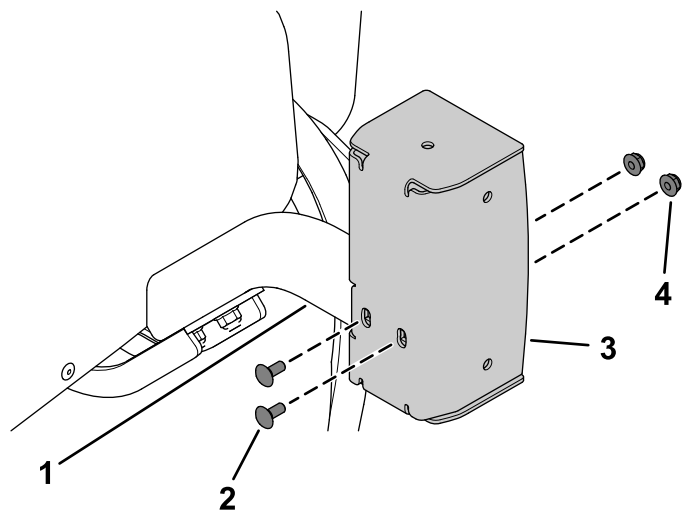

Figure 20
6. Secure the left light housing and right light housing to the left short mount and right short mount using 4 carriage bolts (1/4 x 5/8 inch) and 4 locknuts (1/4 inch) as shown in Figure 20.